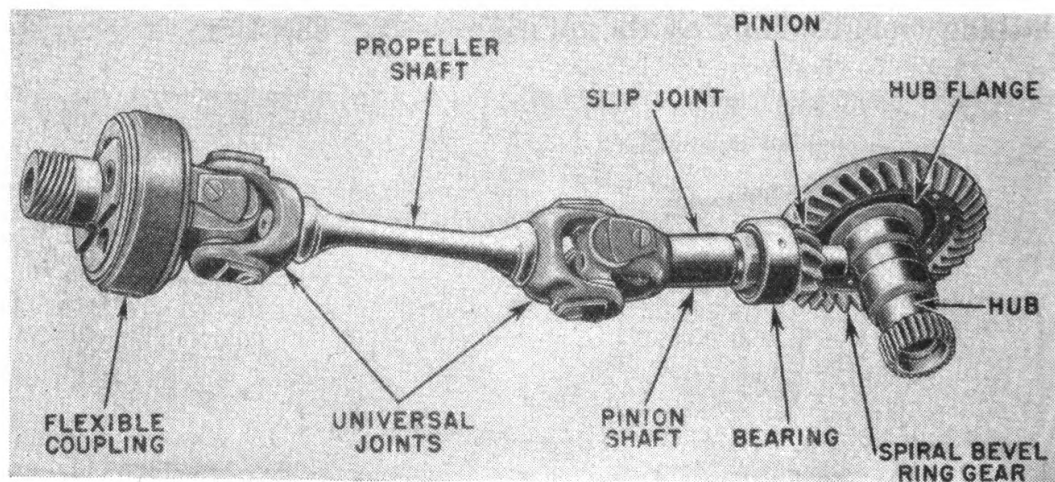

FIGURE 54.—Final drive, disassembled.
c. The final drive bevel gear housing is supported by the slipper bracket of the rear suspension on the right side of the motorcycle. It incloses the spiral bevel pinion and ring gear shown in figure 54. Bearings on both sides of the pinion support the pinion shaft in the housing. The ring gear is bolted to a hub flange. The hub rotates on bearings on the stationary axle shaft. The gears operate in a bath